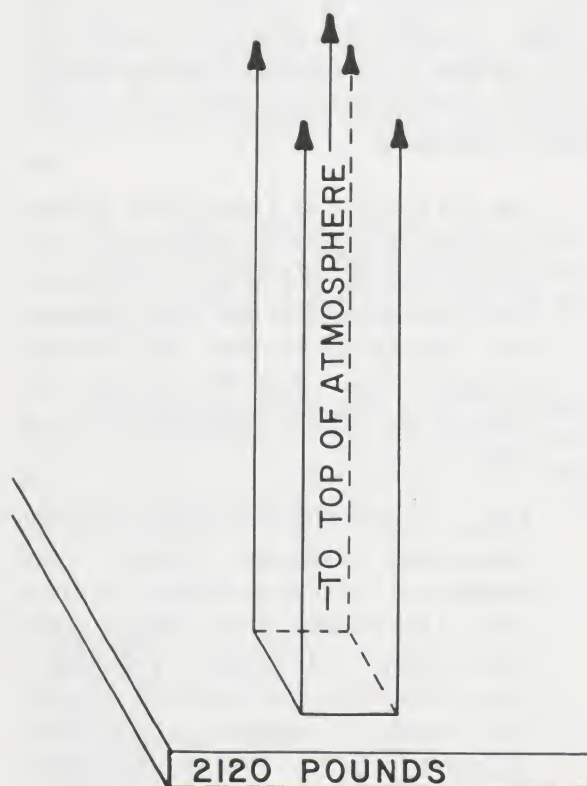

Figure 21.
You have seen that pressure in a liquid depends on both its density and the depth. The same is true for gases. We live at the bottom of an "ocean" of air, and the pressure of the atmosphere is significant. However, the density of the atmosphere varies with altitude, so Equation (7) can't be used to compute air pressure. Figure 21 shows that a column of air 1 ft² in cross-sectional area, and extending to the top of the atmosphere, weighs over a ton! The pressure at the bottom of this column can be calculated.